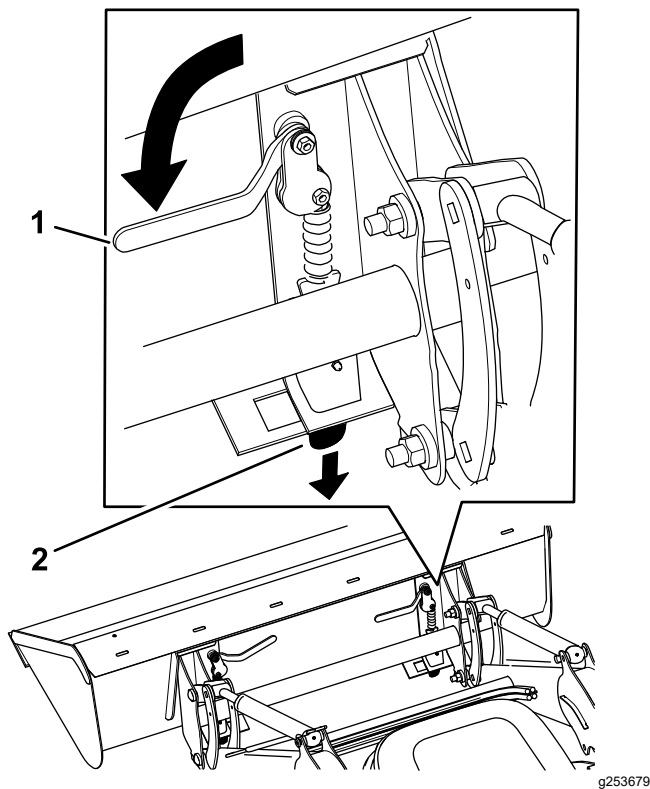

Figure 58
8. Rotate the quick-attach levers inward, ensuring that the quick-attach pins are fully seated in through the mount plate (Figure 58).